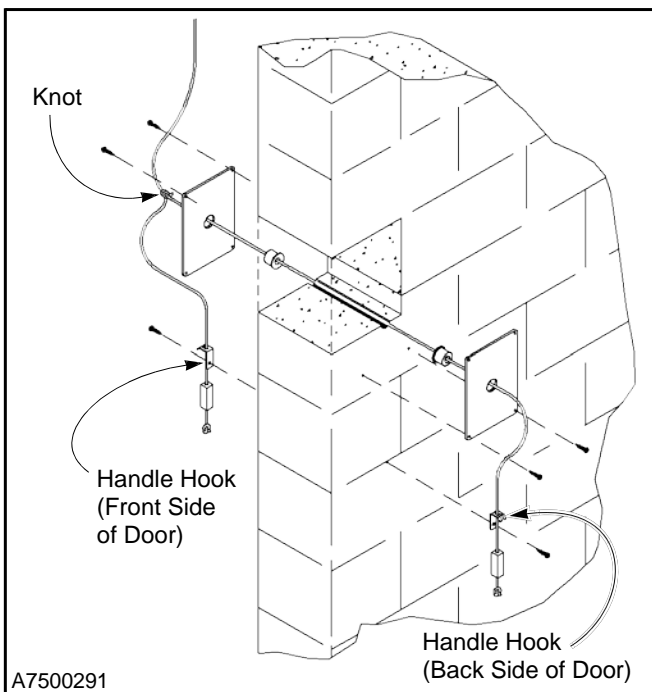

Figure 42
7. Tie a second rope to the first rope as far up the first rope as possible. Then feed the free end of the second rope through the wall plates. Be sure the knot used to connect the two ropes will not slip when either rope is pulled tightly. (See Figure 42.)